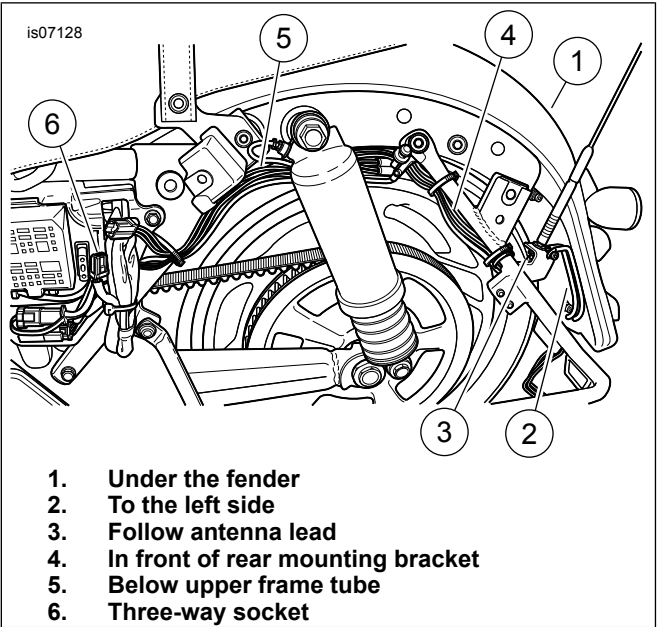
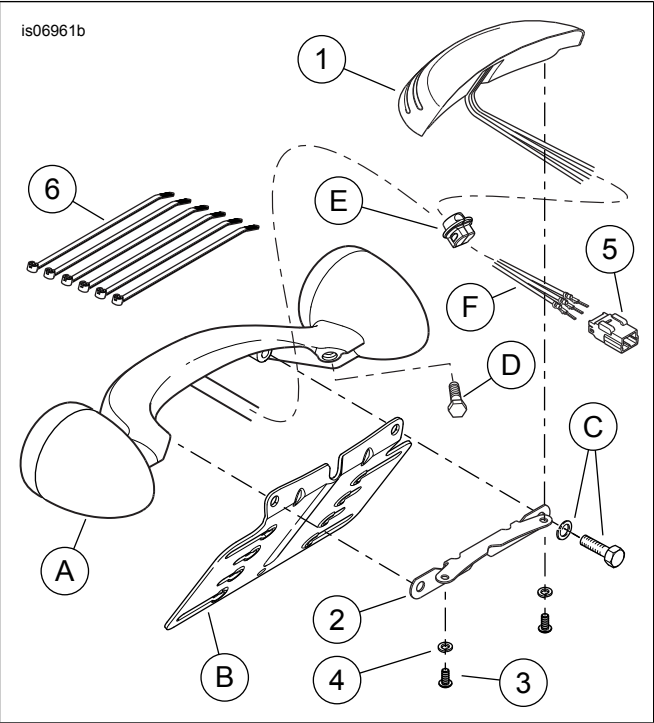

Figure 1. Auxiliary Lamp Wire Harness Routing
Figure 2. Service Parts, FLHX/FLTRX LED Rear Auxiliary Lamp
See Figure 2 and Table 1.
1. See Figure 2. Assemble the auxiliary lamp bracket (2) to the auxiliary lamp (1) with two #8-32 screws (3) and lock washers (4) from the kit. Tighten securely.
2. Remove the two 5/16-18 hex head screws (D) holding the rear light bar (A) and license plate bracket (B) assembly to the rear fender.
3. Remove the two 1/4-20 TORX® screws and lock washers (C) holding the license plate bracket to the rear light bar assembly.
5. Route the auxiliary lamp wires through the rear fender grommet (E) alongside the rear lamp wires.
7. See Figure 1. Using cable straps to secure, route the auxiliary lamp wires,
- a. under the fender (1),
- b. over to the left-side under the rear fascia (2),
- c. follow antenna lead (3),
- d. upward in front of the saddlebag rear mounting bracket (4),
- e. below the upper frame tube (5).
8. See Figure 2. Get the three-way pin housing (5) from the kit. Follow the instructions in the service manual appendix to insert the auxiliary lamp wires and terminals into the pin housing as follows:
9. See Figure 1. Connect the auxiliary lamp pin housing to the black three-way socket housing (6) located to the rear of the fuse panel.